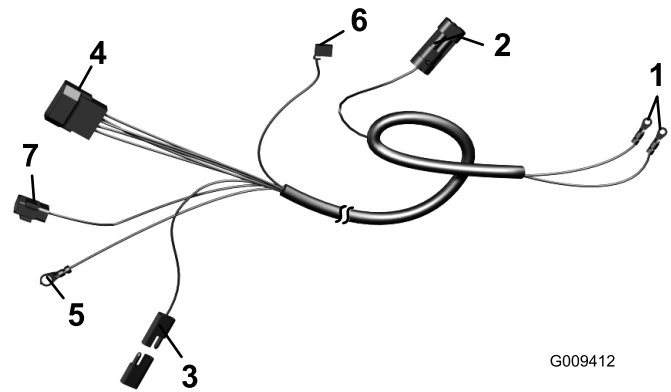

Figure 5
- B. If the mower is equipped with the optional operator presence control, remove the loop back connector from the harness connector and plug the connector into the operator presence connector (Figure 5).
- D. If the mower is equipped with an optional hour meter, plug the connector into the hour meter (Figure 5).
G. Route the wire harness up the right side of the handle to the on/off switch (Figure 5). Connect the white lead terminal to the bottom terminal (#3) on the toggle switch. Connect the black lead terminal to the common terminal (#2) on the toggle switch. Apply skin over grease or equivalent to the exposed switch terminals.
H. Plug the wire harness connector into the interlock switch (Figure 5).
I. Secure the wire harness to the handle tube using the (2) cable ties. Check all the wires for excess bending, chaffing or interference with mounting parts.